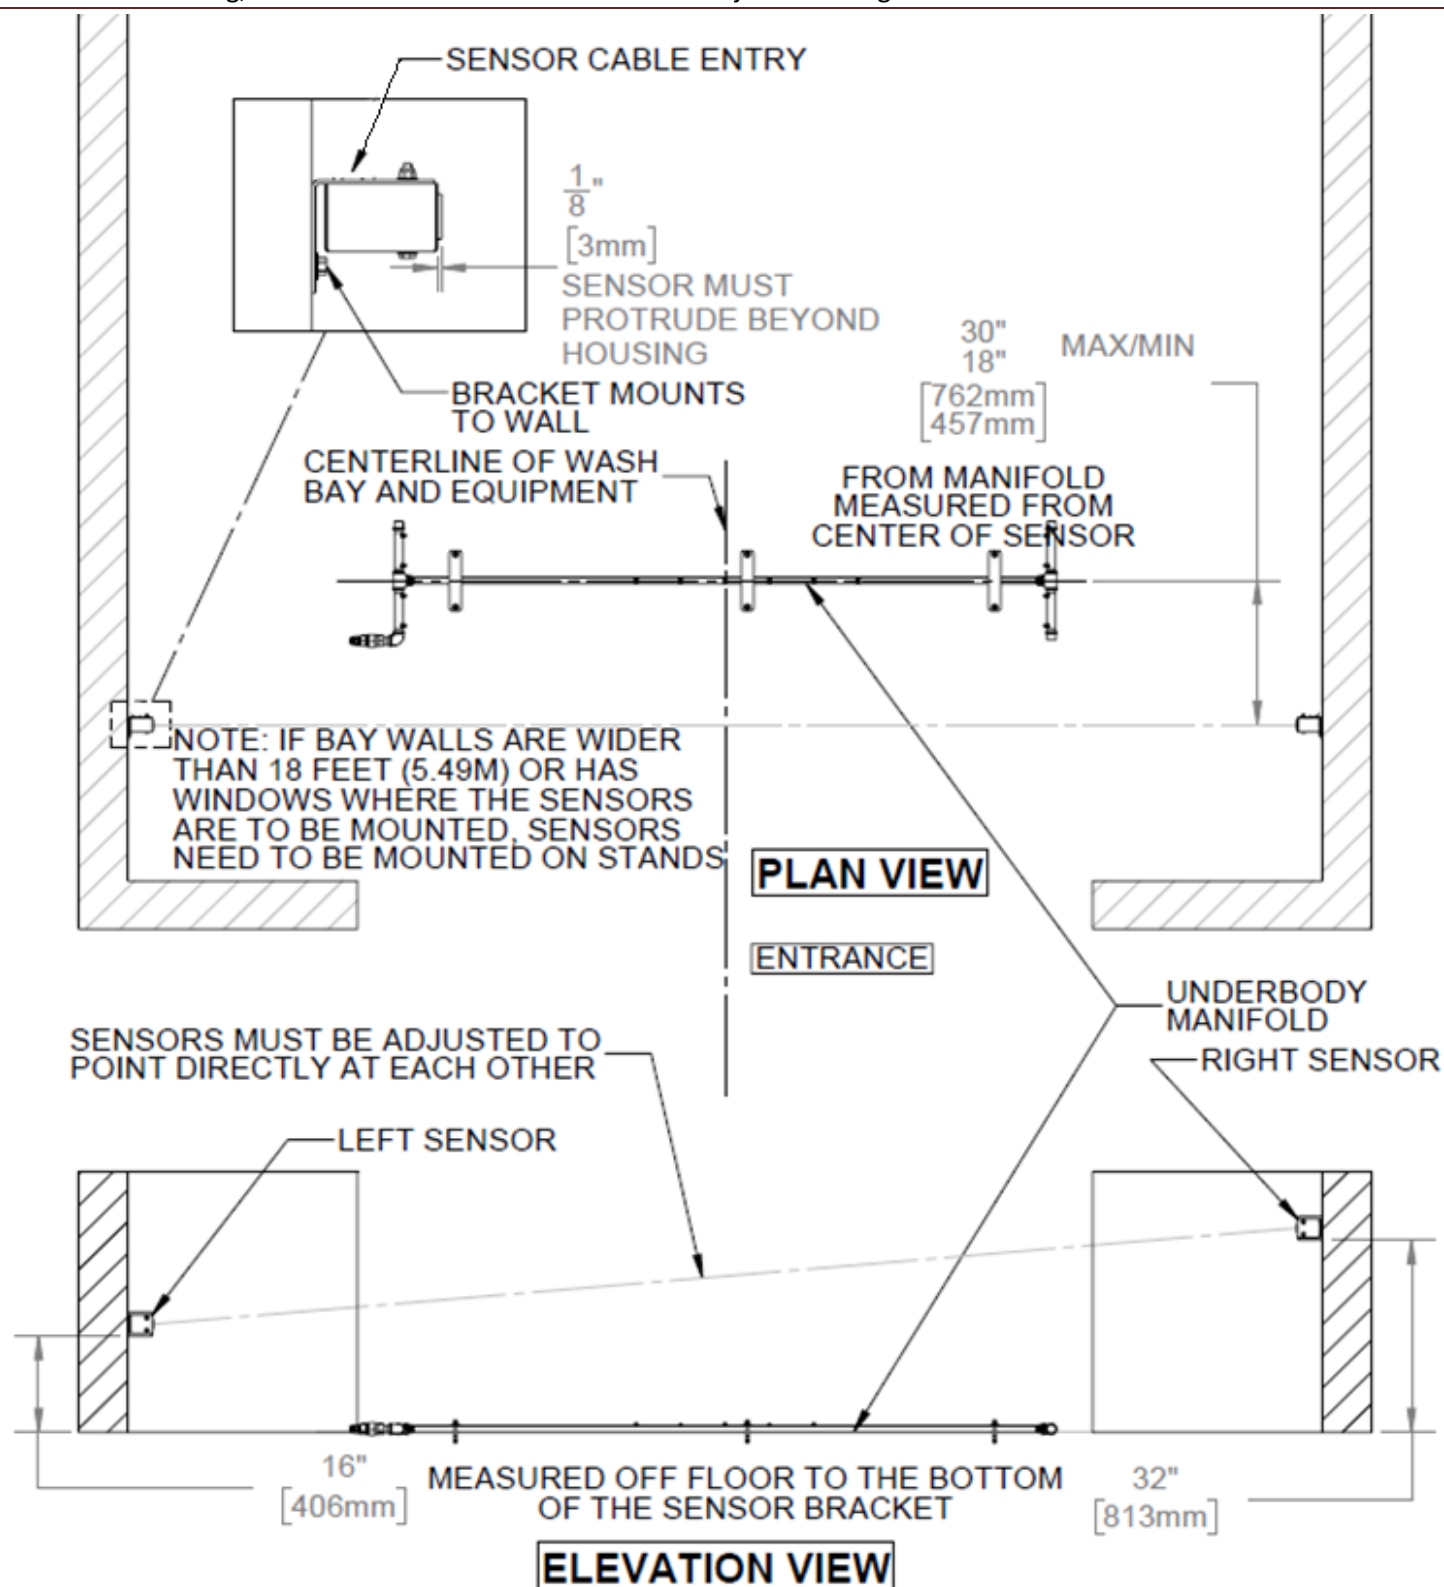

Figure 132 - Wall Mounted Ultrasonic Underbody Activation Sensor Location
- Figure 132 shows the preferred mounting positions for the wall mounted ultrasonic sensor assemblies.
- Mount the sensor assemblies to the walls while taking note of the direction of the strain relief for the sensor cable. Be sure this is pointed in the best direction to accommodate the bay wiring. Ensure the sensor face protrudes from the cover as shown in Figure 132.